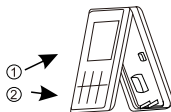

Fig.4
5.After connecting the connecting wire to the main body of the wire controller, as shown in Fig. 4, install main body part according to the following steps: